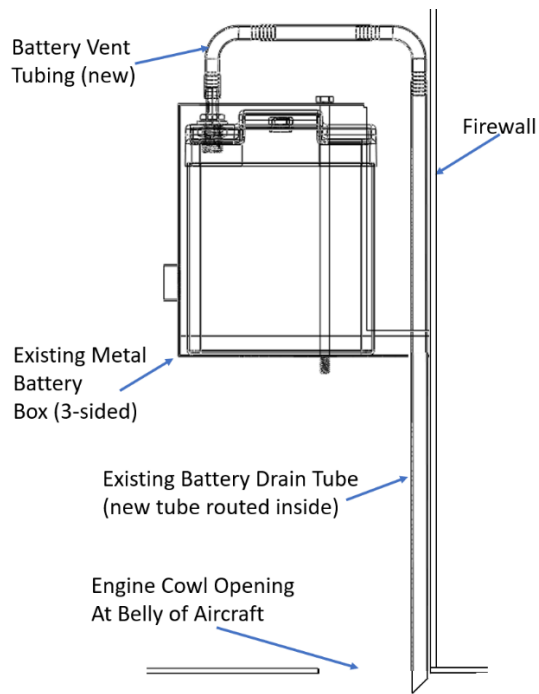

Figure 4 Battery Vent Installation
2. Feed the vent line down the existing (original battery drain tube) and route to bottom of firewall, ensure long edge of tube is forward (see figures 4 and 5 below).